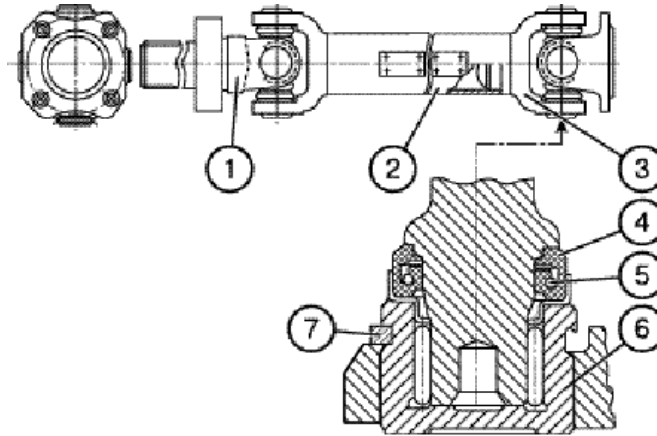

Fig. D-27. Cardan shaft:
The cardan shaft is intended for transmitting the torque from the GB to the FDA. The cardan shaft consists of a tube (2) and two hinges (1), (3) (Fig. D-27) with the cross bar running in needle bearings (6). The needle bearing cages are locked with retaining rings (7); the cross bars trunnions are provided with edge-joint packings (4) and self-tightening collars (5).